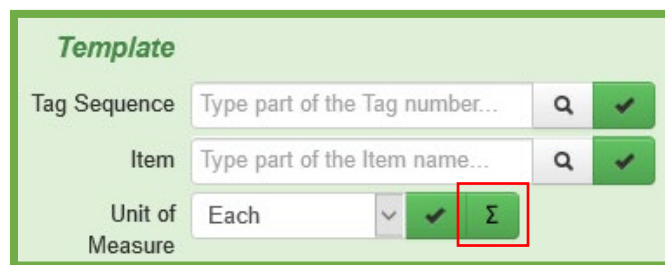

Figure 7: Auto-Sum Button in Packages Template
Users will now have a new button within the packages template that will allow for all-new package quantities to be “Auto-Summed” from the source package. This button, shown in **Figure 7**, functions exactly as the Auto-Sum button does for each individual new package. Meaning, if a licensee has one source package of one hundred (100) cookies, and that licensee wanted to create ten (10) delivery packages of ten (10) cookies each. Then the source package would be the same for all ten (10) new packages. The quantity removed from the source package would be set to ten (10) each. The auto sum button, when selected, would populate each new package with ten (10) cookies for the quantity.